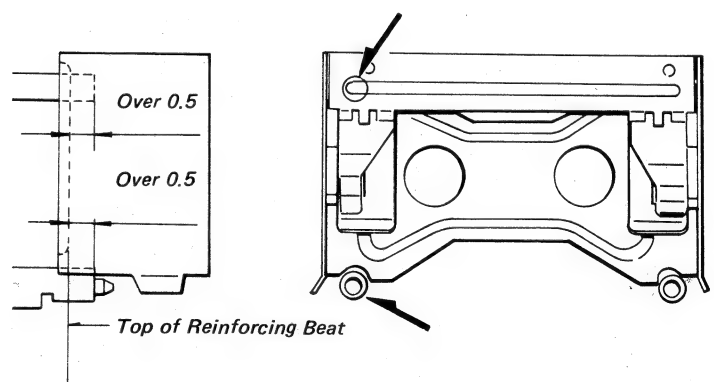

Fig. 5-19 Cassette Loading State Checking
- If there is no clearance between the top of the reinforcing beat on the bottom of the cassette compartment and the cassette retaining posts (left two, looking toward the cassette removal side), replace the lifters (see Fig. 5-19)